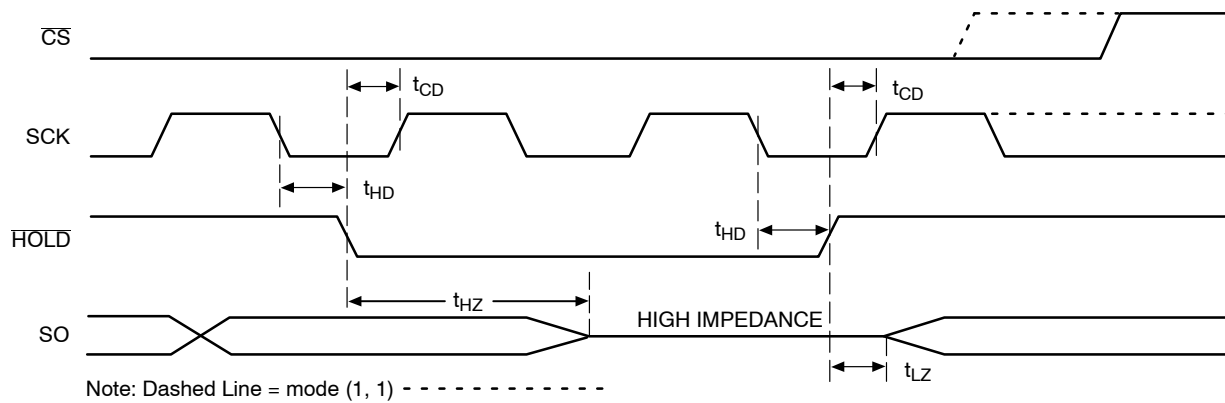

Figure 11. $\overline{\text{HOLD}}$ Timing
The $\overline{\text{HOLD}}$ input can be used to pause communication between host and CAT25M01. To pause, $\overline{\text{HOLD}}$ must be taken low while SCK is low (Figure 11). During the hold condition the device must remain selected ($\overline{\text{CS}}$ low). During the pause, the data output pin (SO) is tri-stated (high impedance) and SI transitions are ignored. To resume communication, $\overline{\text{HOLD}}$ must be taken high while SCK is low.